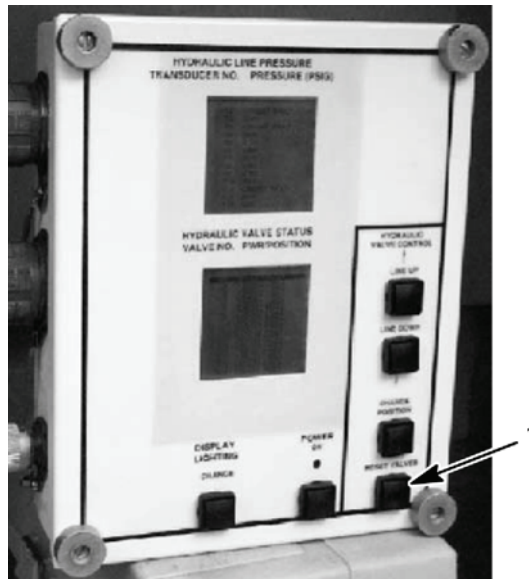

Figure 17. HDC Control Box
- Reset all HDC solenoid valves by selecting the RESET VALVES button (Figure 17, item 1) on the HDC control box.